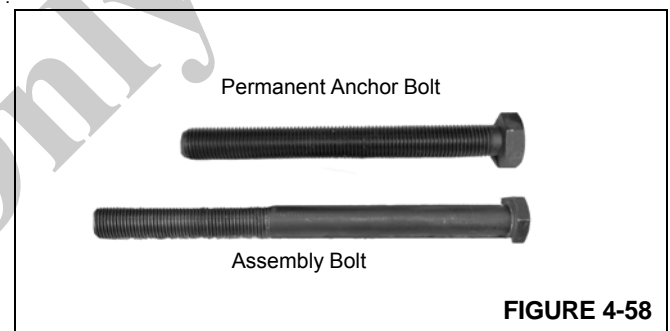

FIGURE 4-58
21. Install adjusting (Figure 4-58) bolt to the anchor assembly.